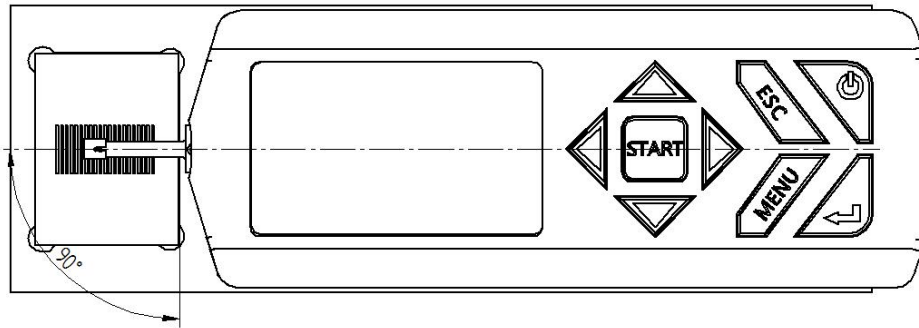

Figure 4-4 Measuring Direction
- 4、 Refer to Figure 4-4, the sensor movement must Vertical the surface lay of the workpiece to be tested.